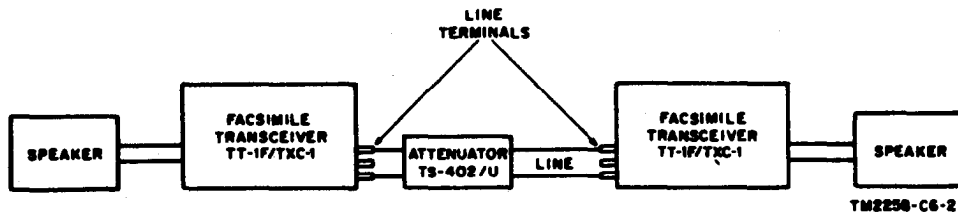

Figure 197. Back-to-back equipment setup for operational test.
h. Operational Tests (fig. 197). Connect the two facsimile transceivers which have met all of the mechanical and electrical requirements above, back-to-back through Attenuator TS-402(*)/U which has been set for 45-db attenuation. The line binding posts will be used for connections.
- (1) *Talk-back circuit test.* This test should be made on Facsimile Transceiver TT-1A/TXC-1 and all later models, with the selector switch set to STANDBY.
- (2) *Phasing operation.*